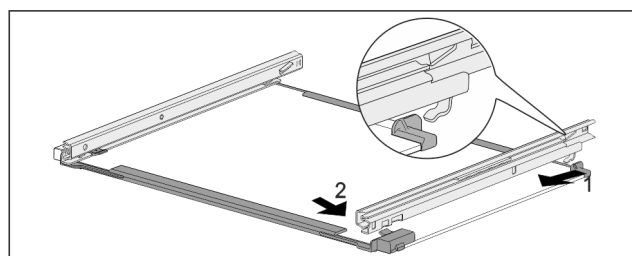

Fig. 264 Glass shelf with rails
- Hook in rail at the back. Fig. 264 (1)
- Hook in rail at the front. Fig. 264 (2)